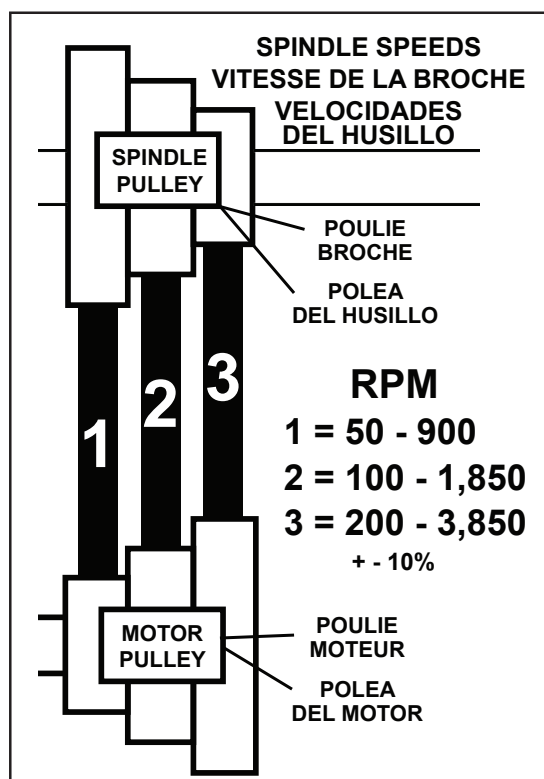
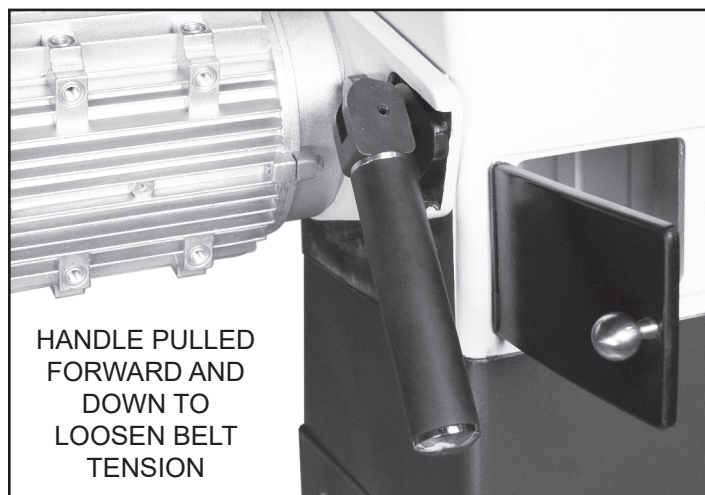

FIG. 30
FIG. 33
To change between the 3 speed ranges, Figure 30, the position of the drive belt on the motor and spindle pulleys must be changed. To do this:
4. Push the Tensioning Handle down to loosen the tension on the Poly-V-Belt. FIG. 33. The belt can now be positioned on the pulleys for the desired speed range. FIG. 30 shows the belt positions for the three speed ranges.